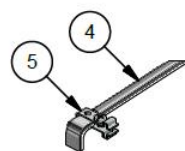

Figure 5a
1. Install the Mesh End Stop ⑤ on the Rod ④ by sliding it onto the 'flat end' as shown and tightening the Phillips screw. (Figure 5a)